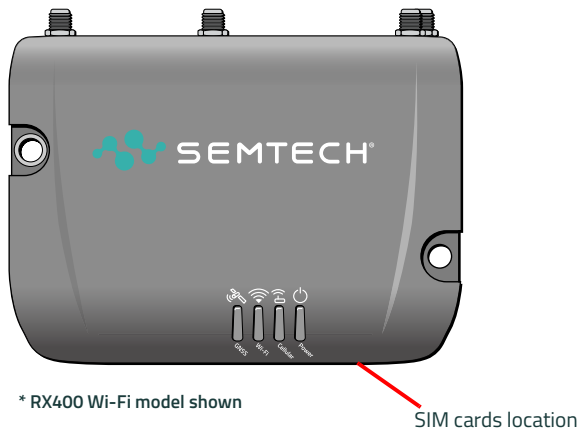

Figure 2-3: Recommended Orientation for Inclined/Vertical Mounting
*Note: When mounting the RX400/EX400 router in a location that could be exposed to rain (e.g., in a vehicle door panel, which would expose the router when the door is opened), mount the router with the SIM card cover facing down, as shown in Figure 2-3.*